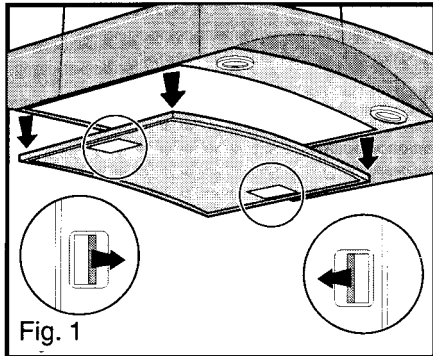

Fig. 1
- Push clips towards the center and pull the filters downward. Fig. 1.